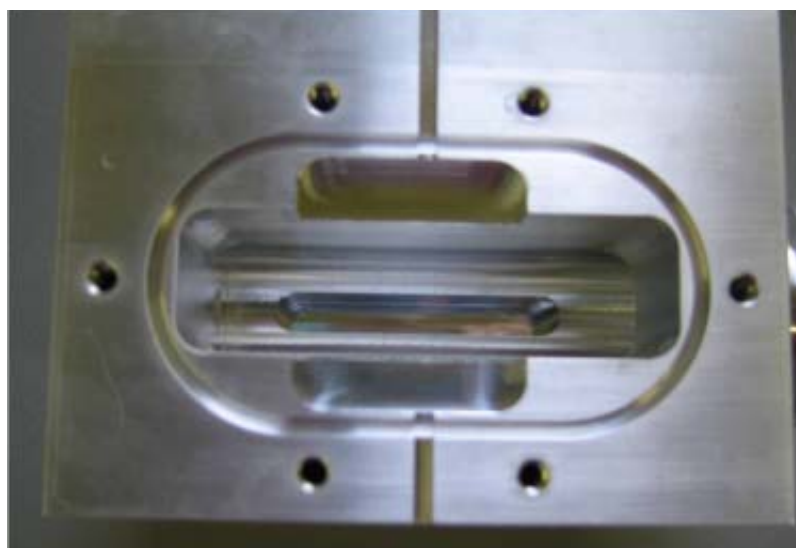

Figure B-65 Inside of Spectrometer Body
10. If the inside of the spectrometer body appears to be dirty, clean it with a lint free wipe and Isopropyl alcohol (Figure B-65).